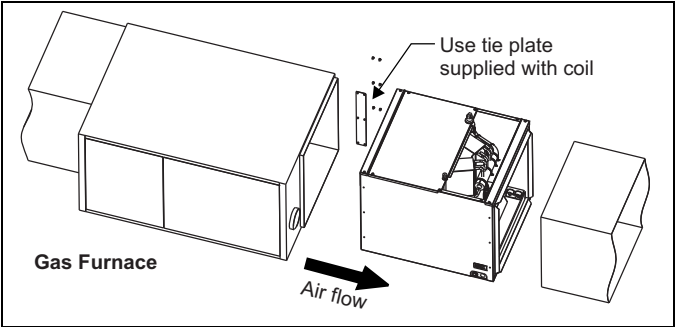

FIGURE 7: Horizontal Left or Right application (Right Shown)
These coils are supplied ready to be installed in a right hand position or a left hand position. When used in conjunction with a horizontal furnace (blow through) application, the coil should be oriented with the opening of the "A" coil closest to the furnace. See Figure 7.
*Each coil is shipped with an external tie plate that should be used to secure the coil to the furnace. It should be installed on the back side of the coil using the dimpled pilot holes. See Figure 7.*